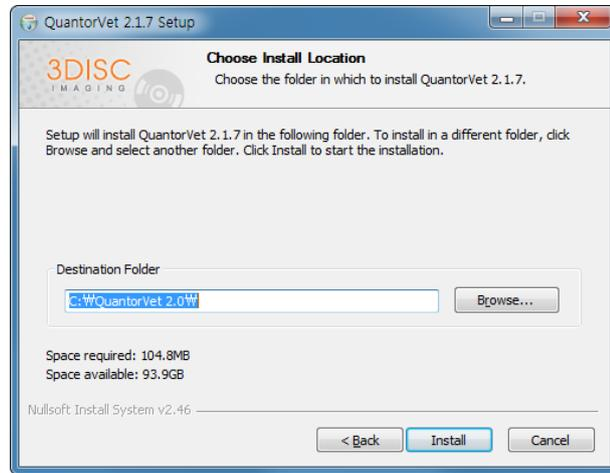

Figure 2.6 Installation Location Dialog Box
- Choose the destination folder and click the "Install" button as shown in Figure 2.6.